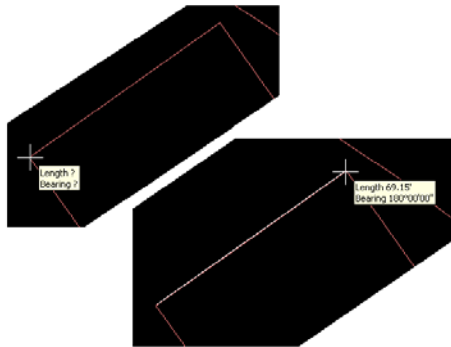

Figure 8-5. Measuring Distance
- When measuring a distance, the length of the drawn line displays (Figure 8-5 on page 8-4).